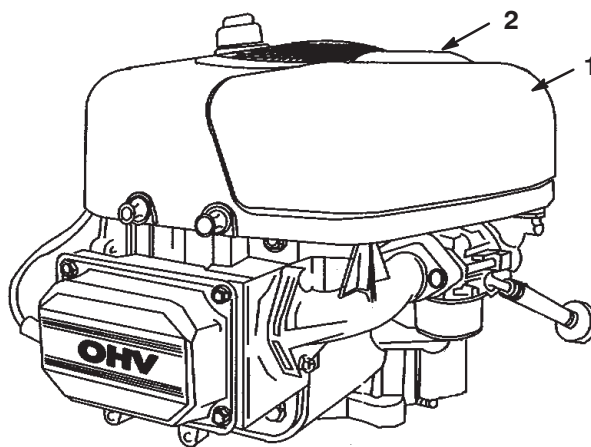

Figure 30
2. Pull up on the air cleaner cover handle and rotate it toward the engine (Fig. 30).